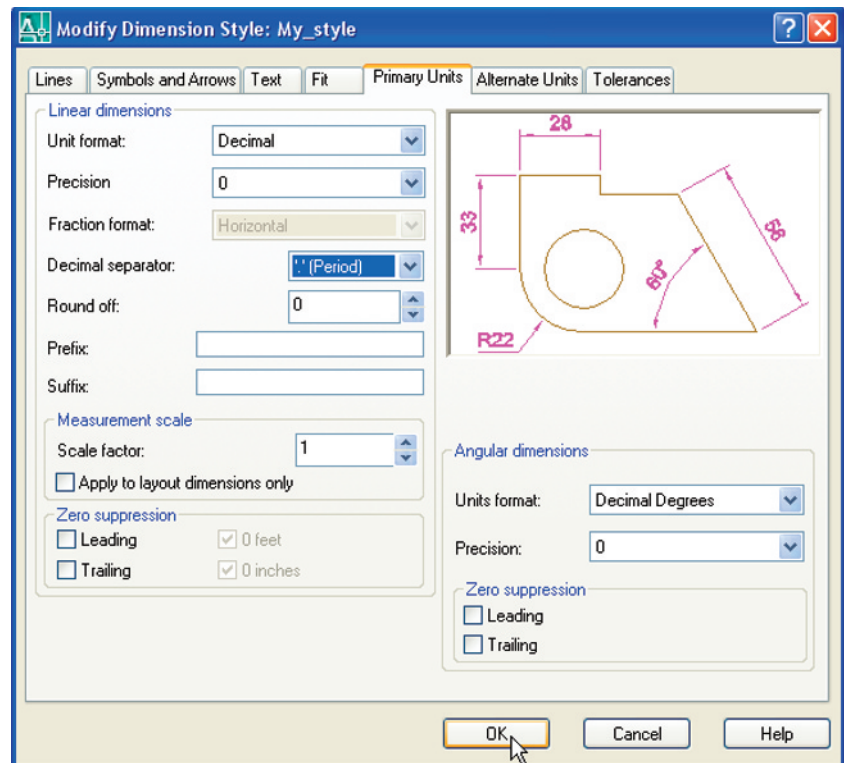
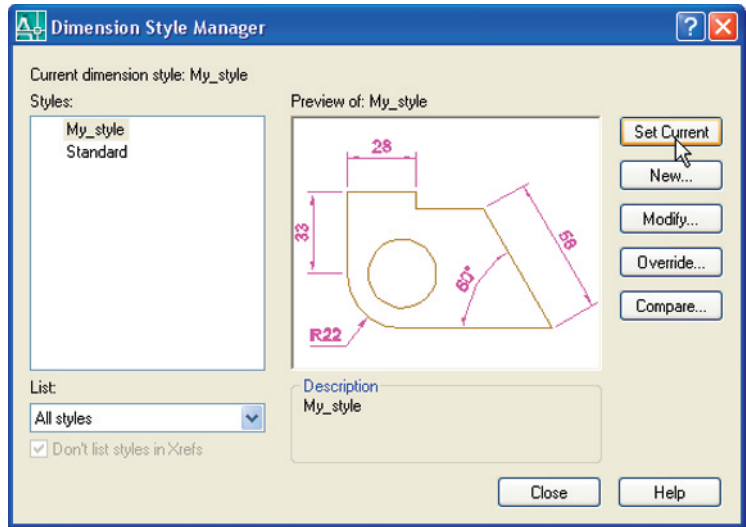

Fig. 4.13 Setting units in the **Primary Units** sub-dialog
Fig. 4.14 Click the **Set Current** button
- Then *click* the **Primary Units** tab and set the units **Precision** in both **Linear** and **Angular Dimensions** to **0**, that is no units after decimal point. *Click* the sub-dialog's **OK** button (Fig. 4.13). The **Dimension Style Manager** dialog reappears showing dimensions, as they will appear in a drawing, in the **Preview of: My_style** box. *Click* the **Set Current** button (Fig. 4.14), followed by another *click* on the **Close** button.